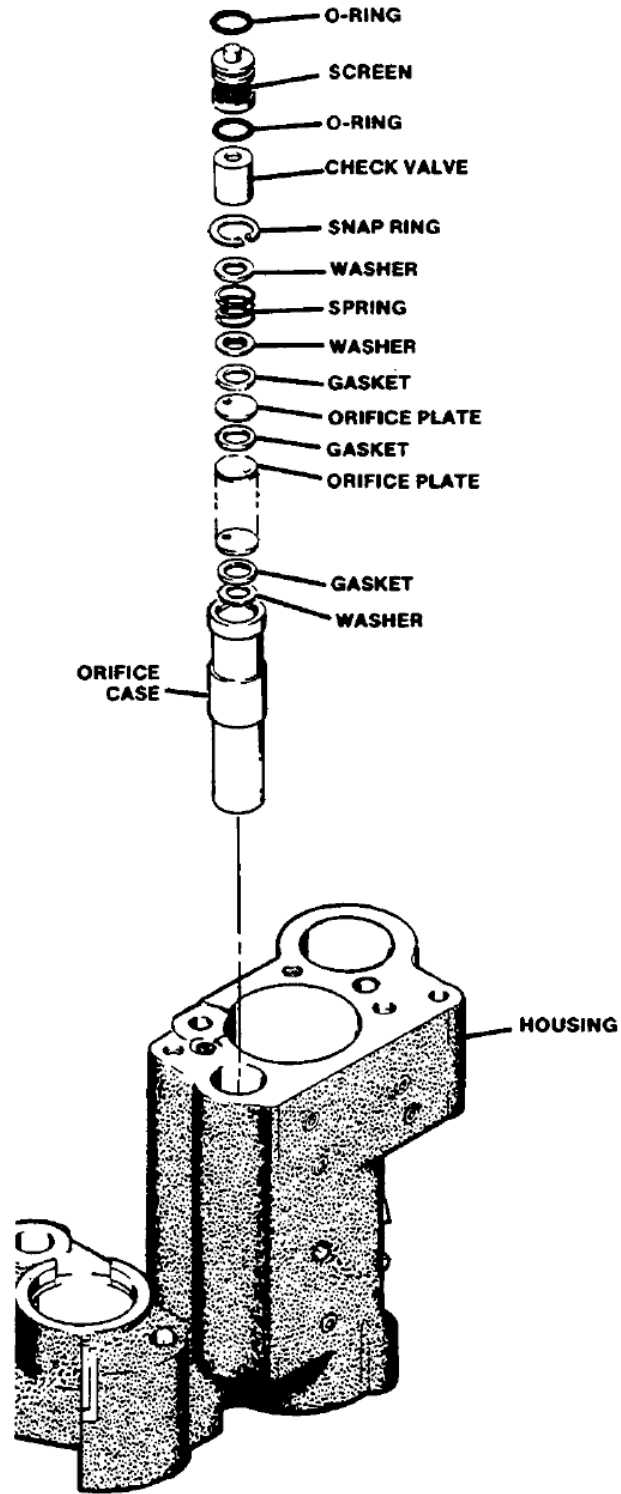

Figure 5-57. Fuel Limiter Orifice
36. Limiter assembly (Figures 5-57, 5-58, 5-59).